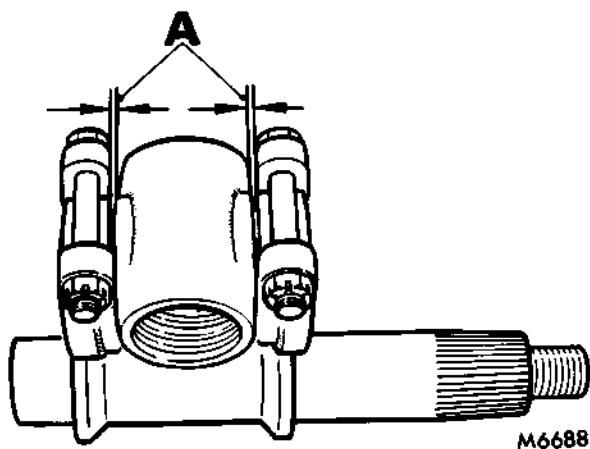

FIG. 4. WORM NUT AND ROCKER SHAFT ASSEMBLY
3. Centralize worm nut assembly by lightly tapping the bushes towards the faces of the worm (Fig. 4), until the recommended clearance is obtained, see Data.